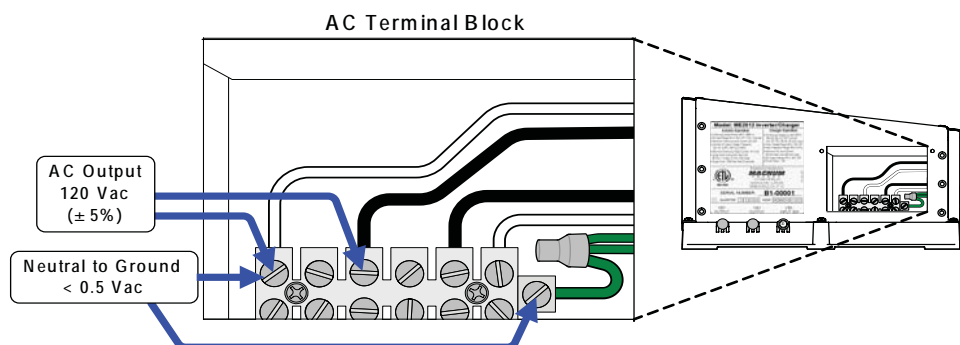

Figure 2-22, AC Voltage Checks
5. Check the AC output voltage of the inverter by connecting an AC voltmeter to the output terminals (see Figure 2-22) and verify the correct output voltages.